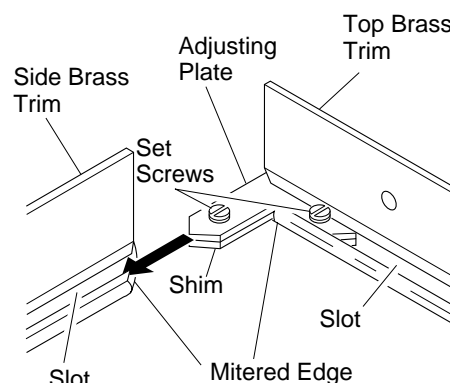

**Figure 5 - Attaching Brass Front Trim to Front Panel**
2. Slide the head of two truss-head screws from hardware packet into each end of brass front trim (see Figure 5).